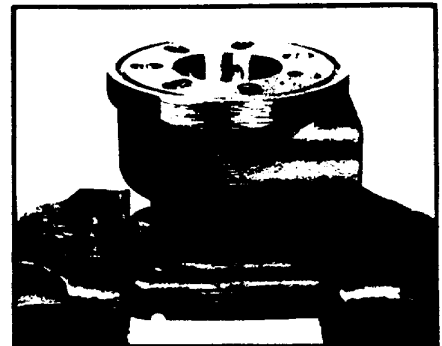

Figure 39
9. Place housing (15) assembly into a soft-jawed vise with coupling shaft bore down, and clamp the vise jaws against the edges of the mounting flange. SEE FIGURE 39.
1. Place housing (15) in a vise per MAF motor assembly procedure #9 and FIGURE 39 (Page 18).